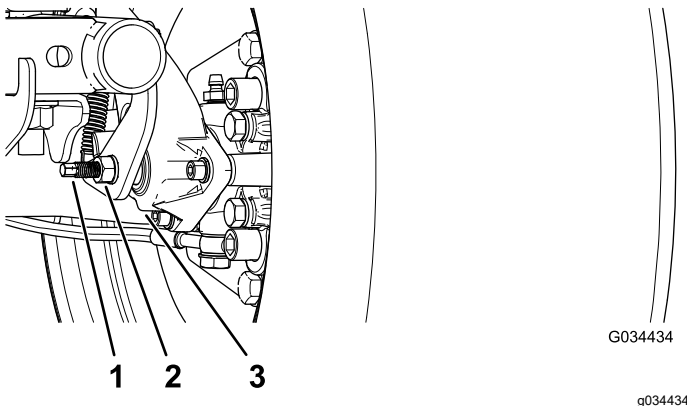

Figure 61
3. Using 2 wrenches, hold the adjusting post on the caliper in place with 1 wrench, and loosen the jam nut 1/4 turn with the other wrench (Figure 61).
4. While holding the adjusting post and the jam nut in place, turn the adjusting post in to tighten (Figure 61).
5. While holding the adjusting post and the jam nut in place, back off 1/4 turn (Figure 61).
6. While holding the adjusting post and the jam nut in place, tighten the jam nut (Figure 61).